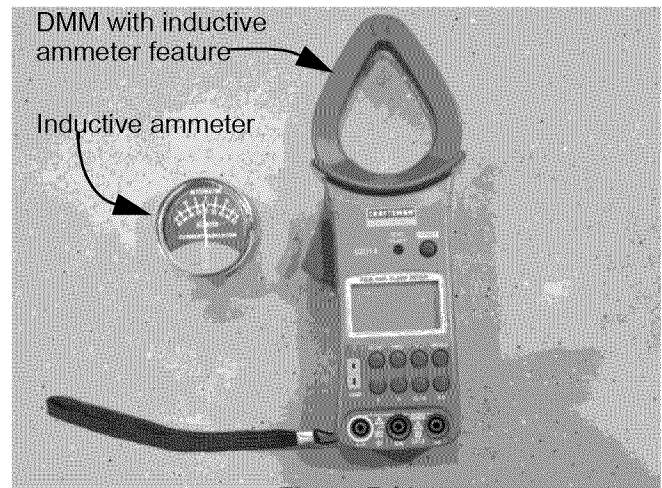

Figure 7.33
- Inductive ammeters are available in many forms. Some are as simple as a gauge to be held against the circuit in question when it is energized. See Figure 7.33.